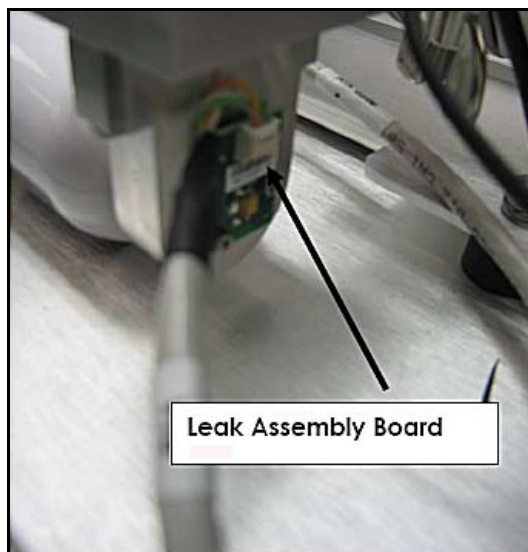

Figure B-45 Leak Assembly Board Connection
- Connect the calibrated leak temperature cable end labeled P1A to the leak assembly board connector J1A (Figure B-45).